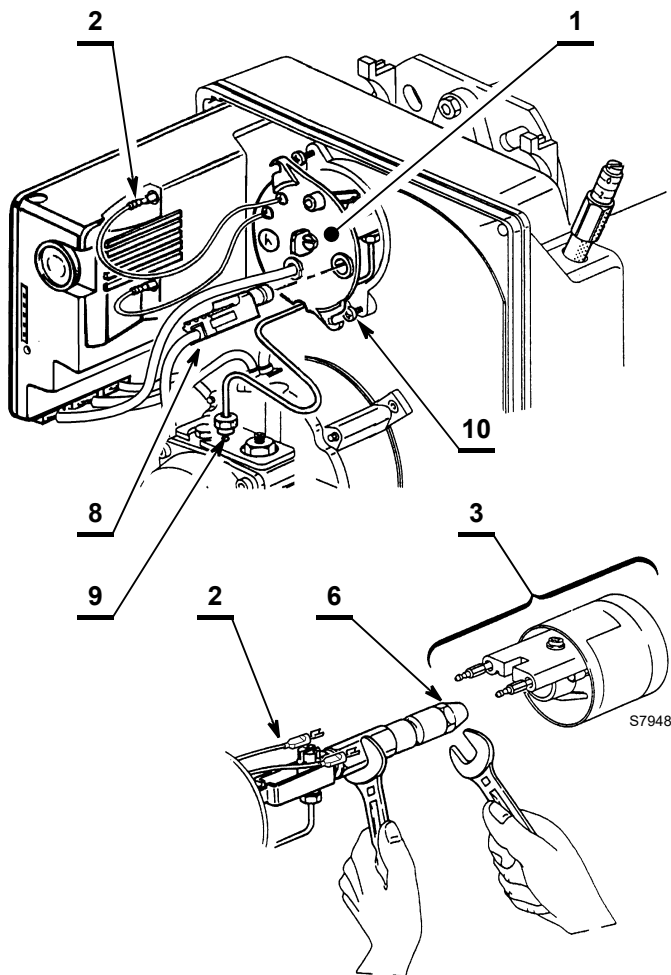

Fig. 13
1st Mode (Fig. 13):
- pull out the cables 2)(Fig. 13) from the control box, the flame sensor 8) and unscrew the nut 9) from the pump.
- Remove the cables 2) from the electrodes, loosen the screw 4)(Fig. 13) and remove the diffuser disc holder assembly 3) from the nozzle holder assembly 1).
2nd Mode (Fig. 13):